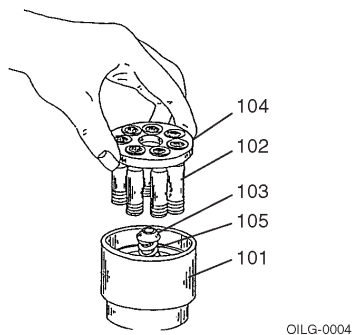

Figure 6. Rotating Group Disassembly.
2. Remove the rotating group by turning shaft (301) slowly, while pulling the cylinder barrel (101) from the housing.
3. Identify (number) each pump piston shoe assembly (102) and its respective bore in the cylinder barrel (101) and shoe retainer (104) for easy reassembly.
4. See **Figure 6**. Lift out shoe retainer (104) with pistons (102) and remove the fulcrum ball (103) and shoe retainer spring (105).
See **Figure 6**.